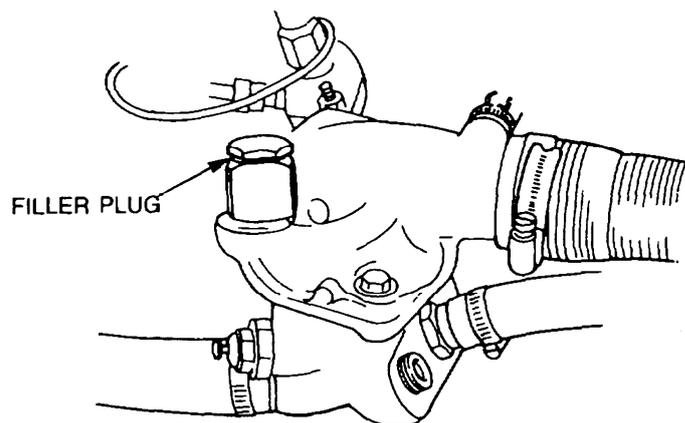

Figure 16 Thermostat Removal
- a. Remove the brass filler plug from the thermostat housing (Figure 16).